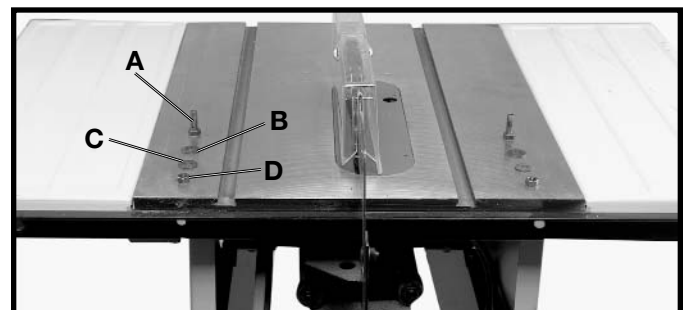

Fig. 43
5. Align holes in saw table and extension wings with four holes in rear guide rail (J) Fig. 43. **NOTE:** Flat edge of rear guide rail (J) will face upward. Insert a 3/8-16x1" hex head screw (A) Fig. 43, through hole in rear guide rail and hole in saw table. Place a 3/8" flat washer (B) Fig. 43, and a 3/8" lock washer (C), onto the hex head screw. Thread a 3/8-16 hex nut (D), onto the hex head screw. Repeat this process for the three remaining holes in the rear guide rail and the saw table and extension wings.